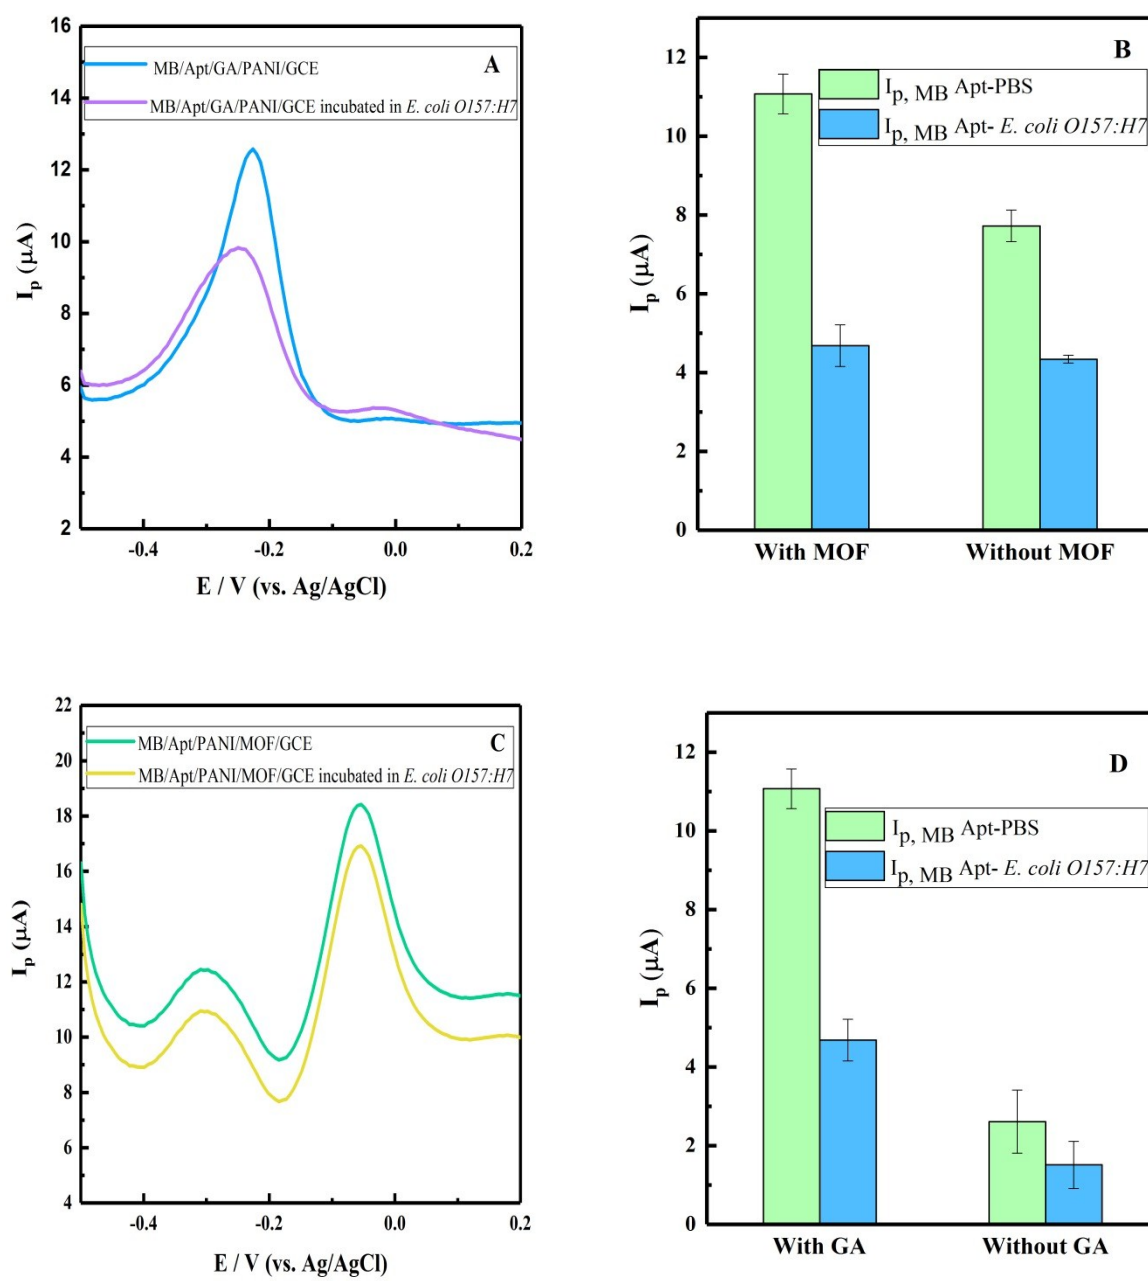

Fig. S6
Fig S6. (A) DPV signal for 20 μM of MB at Apt/GA/PANI/GCE, (B) bar chart of peak current change in presence and absence of MOF, (C) DPV signal for 20 μM of MB at Apt/PANI/MOF/GCE and (D) bar chart of peak current change in presence and absence of GA.